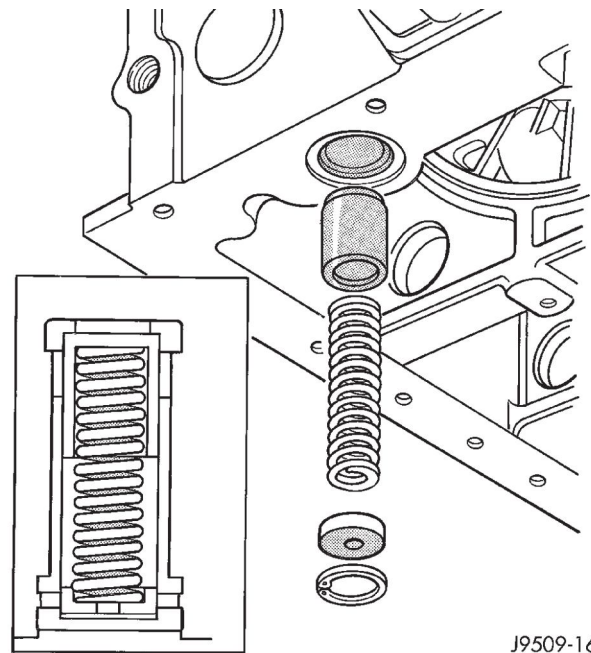

Fig. 61 Oil Pressure Relief Valve
- (1) Remove oil pan.
- (2) Remove clip retaining relief valve.
- (3) Remove relief valve cap, spring, and plunger (Fig. 61).
- (4) Check relief valve spring length. Relief valve spring free length is 57.5mm (2.263 in.). If spring length is less or spring is distorted it must be replaced.
- (5) Check plunger for scoring, replace if necessary.